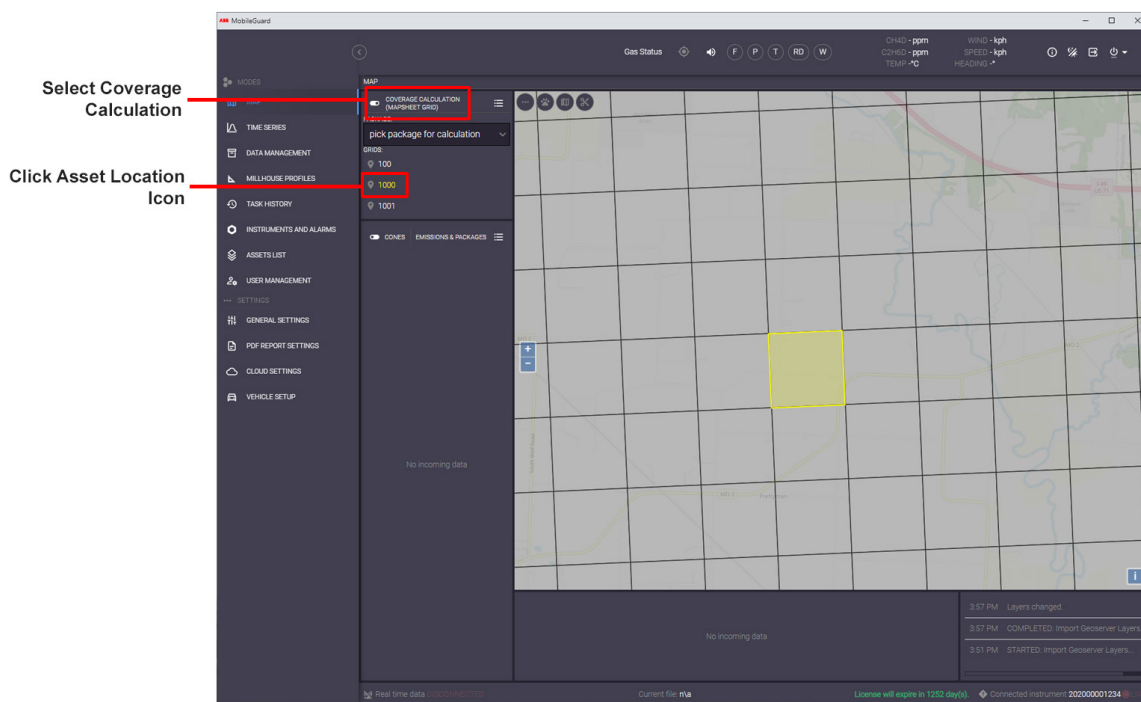

Figure 118 Mapsheet Grid Highlight
- 2 Set the **Coverage Calculation** toggle in the right position – calculation based on the mapsheet grid. (See Figure 118.)
- 6 Click the **location** icon to the left of the asset name to view. (See Figure 118.)